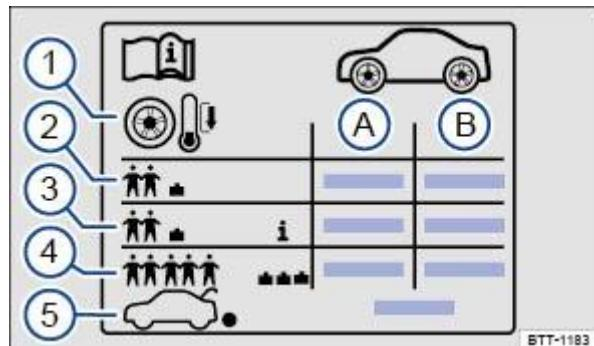

Fig. 194 Symbols on the tyre pressure sticker.
Information on the sticker ⇒ Fig. 194 :
Depending on the vehicle, the tyre pressure sticker may show details of a comfort tyre pressure ⇒ Fig. 194③ . The comfort tyre pressure allows increased driving comfort. Fuel consumption may increase when driving with comfort tyre pressure.
- ② Check the tyre pressure at least once a month.
- ② Always check the tyre pressure when the tyres are cold. The specified tyre pressure applies to cold tyres. Tyre pressure is always higher in warm tyres than it is in cold tyres. For this reason, never reduce the pressure in warm tyres to adjust the tyre pressure.
- ② Always adjust the tyre pressure to the load level ⇒ Fig. 194④ .
- ② After adjusting the tyre pressures, always screw the caps onto the valves and observe the information on the tyre monitoring system.
- ② Always use the tyre pressure specified on the sticker. Never exceed the maximum tyre pressure which is given on the sidewall of the tyre.